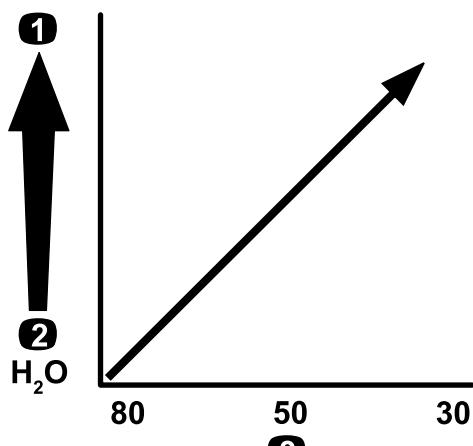

Figure 20
**Important:** When you spray with higher viscosity (thicker) chemical products or solutions with wettable powders, you may need to use an coarser screen mesh for the optional suction filter; refer to Figure 20.